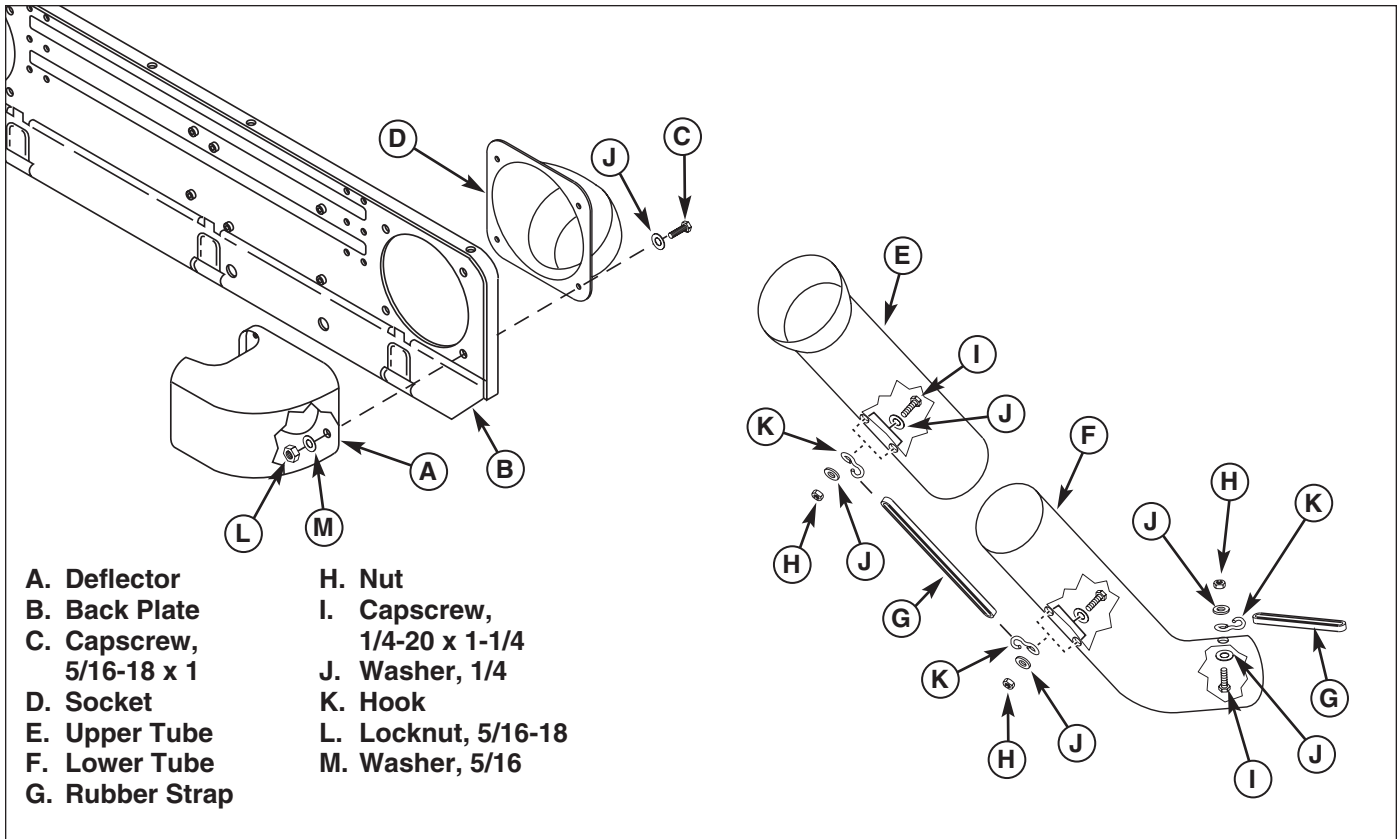
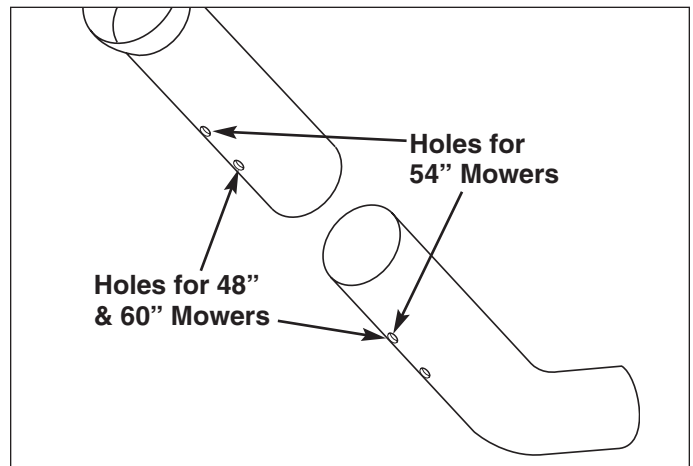

Figure 8. Assemble Tubes & Deflector
Figure 10. "S" Hook Hole Locations
1. All models covered by this manual require the upper tube (E, Figure 8) to be left at full length.
2. If not already done, insert the upper tube (E, Figure 8) into the socket (D). Insert the tube from the front. This will require some effort.
3. Mount the socket (D, Figure 8) and deflector (A) to
the back plate (B) using the four 5/16-18 x 1" cap-screws (C), eight flat washers (M), and four nylock nuts (L) as shown in Figures 8 & 9.
4. Insert the lower tube (F) into the upper tube (E). Secure the elbow to the turbo using "S" hooks (K) and a rubber strap (G). Assemble as shown in Figure 8. Use Figure 10 to determine correct hole locations for hooks (K).